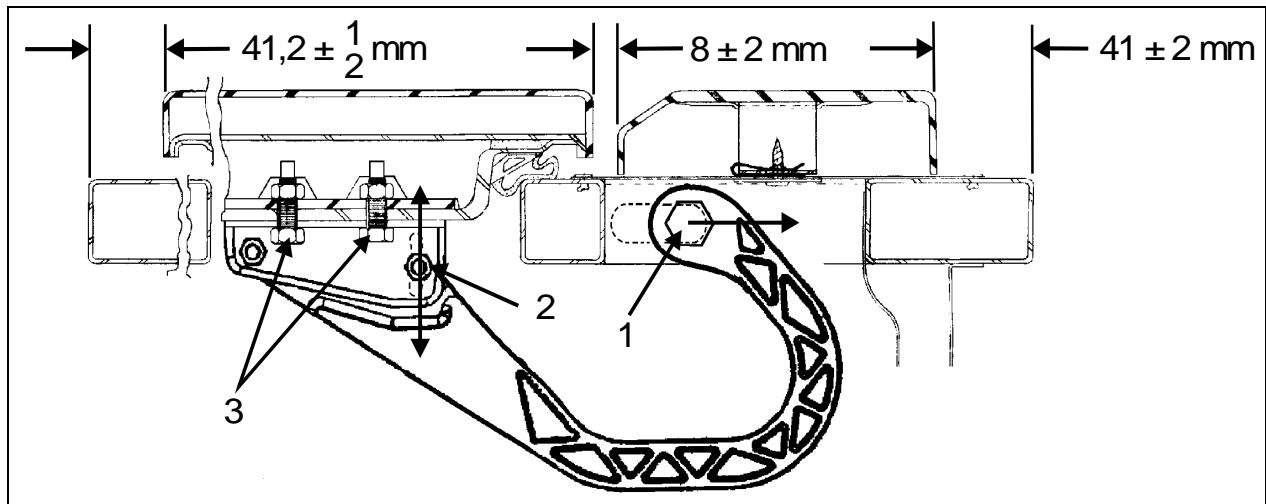

FIGURE 76: EVAPORATOR DOOR
2. Loosen nut (1, Fig. 76).
4. Tighten nut (1, Fig. 76).
5. Loosen nut (2, Fig. 76). Hinge allows the door to be shifted "IN or OUT".
7. Loosen screws (3, Fig. 76). Screws allow the door to be shifted "UP or DOWN".